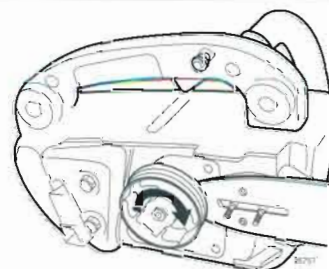

Figure 13.6 Remove the Clutch Assembly
STEP 2. Use a 13 mm wrench to remove the clutch shoe assembly in a clockwise rotation (Figure 13.6).